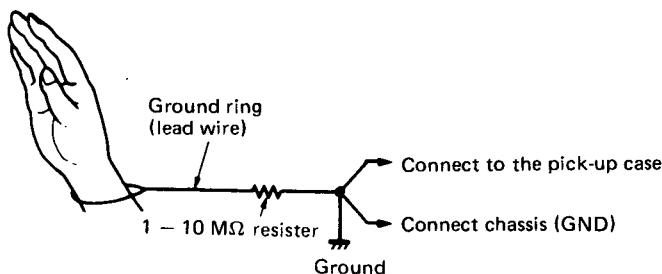

Fig. 20
(2) Notes on handling the unit mechanism (Fig. 20)
When handling the pick-up mechanism or unit mechanism, use the ground ring as shown in Fig. 20.